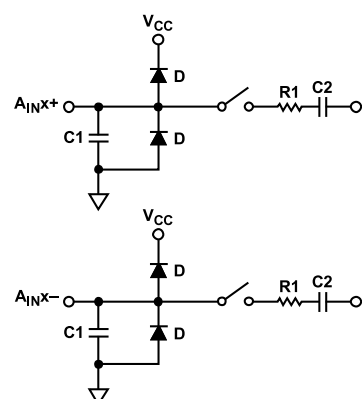

Figure 30. Equivalent Analog Input Circuit, Conversion Phase—Switches Open, Track Phase—Switches Closed
Figure 30 shows the equivalent circuit of the analog input structure of the AD4680/AD4681. The four diodes (D) provide ESD protection for the analog inputs. Ensure that the analog input signals never exceed the supply rails by more than 300 mV. Exceeding the limit causes these diodes to become forward-biased and start conducting into the substrate. These diodes can conduct up to 10 mA without causing irreversible damage to the device.
The C1 capacitors in Figure 30 are typically 3 pF and can primarily be attributed to pin capacitance. The R1 resistors are lumped components made up of the on resistance of the switches. The value of these resistors is typically about 200 Ω . The C2 capacitors are the sampling capacitors of the ADC with a capacitance of 15 pF typically.